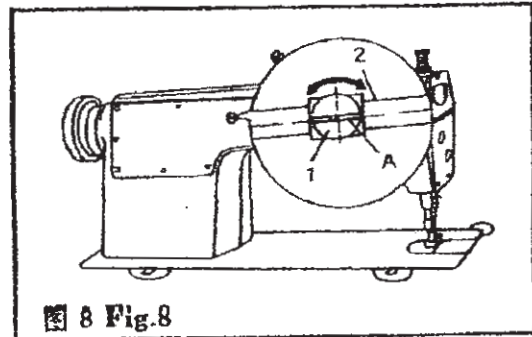

图 8 Fig.8
#### b. 调节面部油量 (图 8)
b. Adjusting the amount of oil supplied in the front of head(Fig.8):